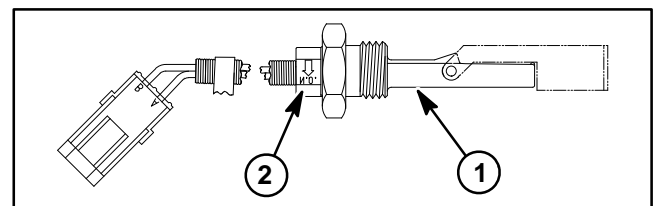

Figure 79
2. Install oil level sensor into reservoir making sure that arrow on sensor is pointing down (Fig. 79). Torque sensor nut from **110 to 140 in-lb (12.5 to 15.8 N-m)**.
4. Apply antiseize lubricant to threads of four (4) cap screws (item 17). Secure hydraulic reservoir to the tank mount plate with four (4) cap screws, flat washers (item 16) and flange bushings (item 15). Torque cap screws from **30 to 50 in-lb (3.4 to 5.6 N-m)**.